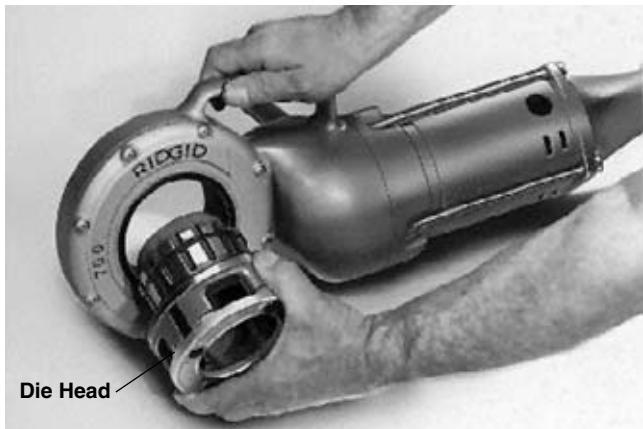

Figure 3 – Installing No. 12-R Drop Head Die Head
1. Push Die Heads or Adapters, spline end first, squarely into the Power Drive until the spring-loaded adapter pawls catch securely (*Figure 3*).